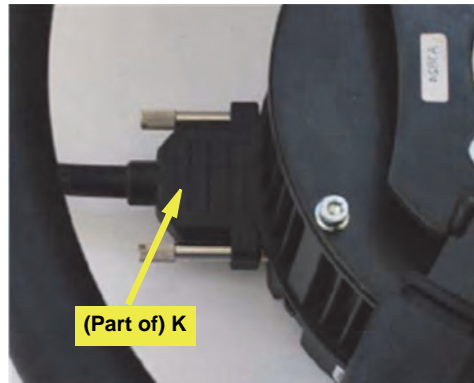

Figure 5b: Junction box comms cable connected to steering wheel assembly
- c. Clip the junction box **K** into place on its bracket **L** (neither shown) then connect **K**’s 15-pin connector cable to the communications port on the steering wheel assembly (Figure 5b). Use clip **N** suitably (not shown).